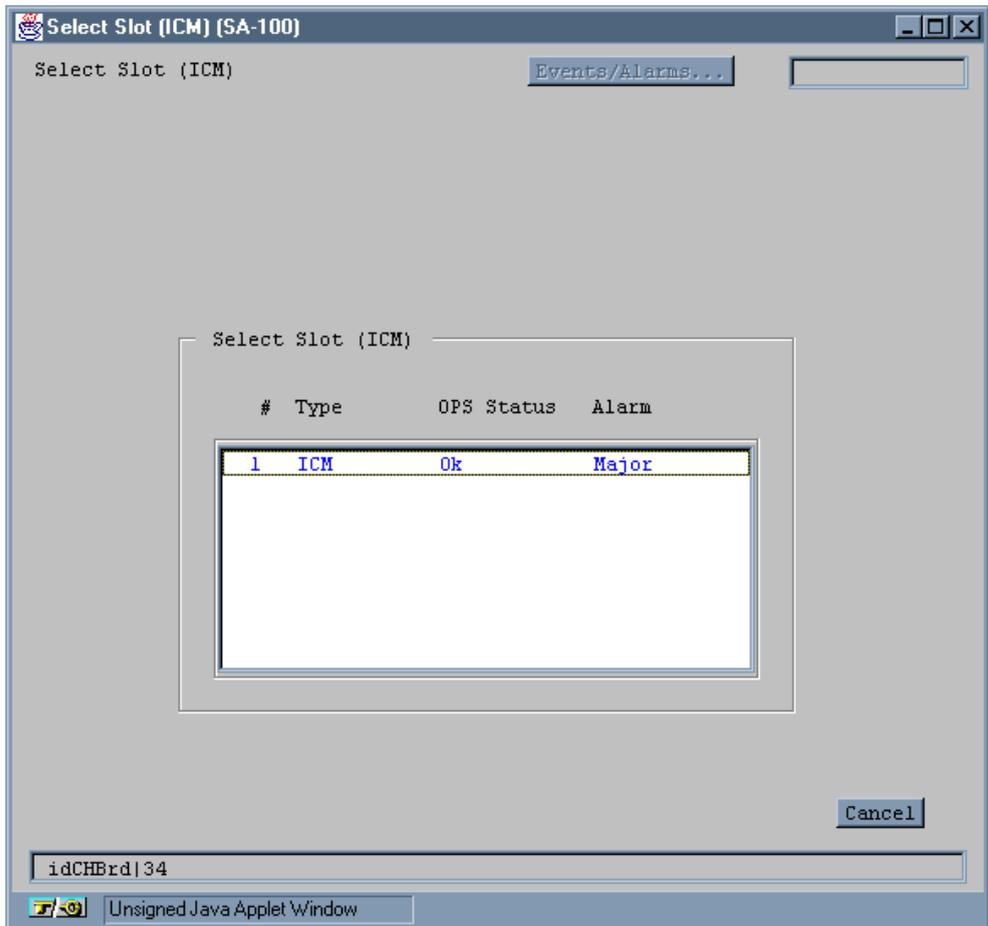

Figure 8-2. Select Cell Hwys Window
1. Select Cell Hwys from the Diagnostics menu. The Select Cell Hwys window appears (Figure 8-2):